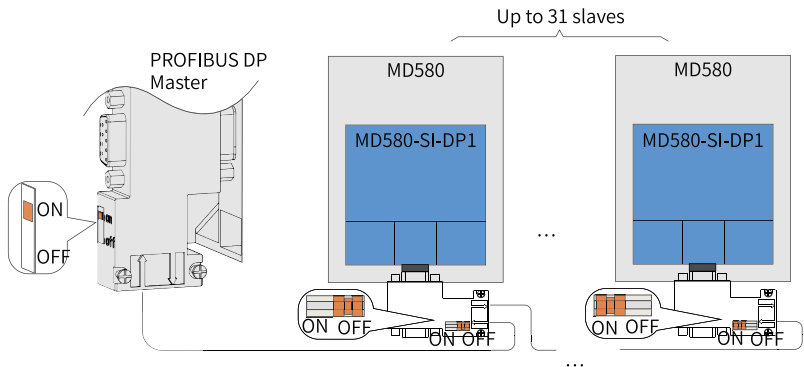

Figure 2-6 Multi-drive system connection without any repeater
- For multi-drive system connection without any repeater, connect termination resistors to the first and last AC drives, as shown in "Figure 2-6 Multi-drive system connection without any repeater" on page 21.